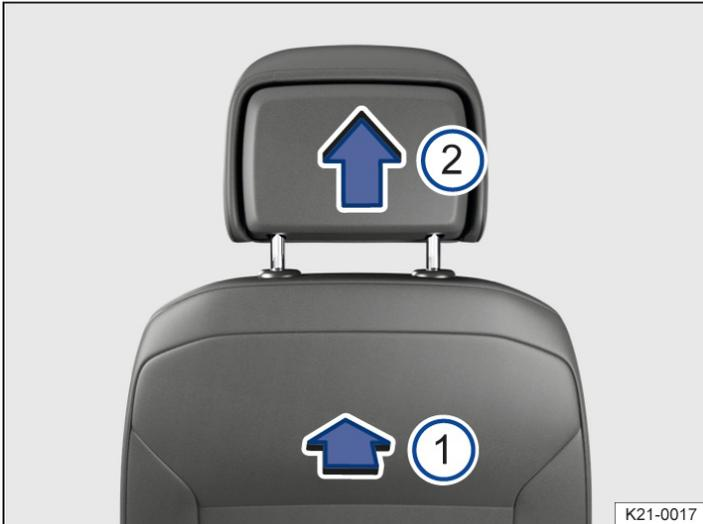

Fig. 1 Removing a front head restraint(illustration).
2. To release the head restraint, feel for the recess in the marked area → Fig. 1 ¹ on the rear side, press in and hold in the direction of the arrow.
3. Pull the head restraint out in the direction of the arrow → Fig. 1 ².